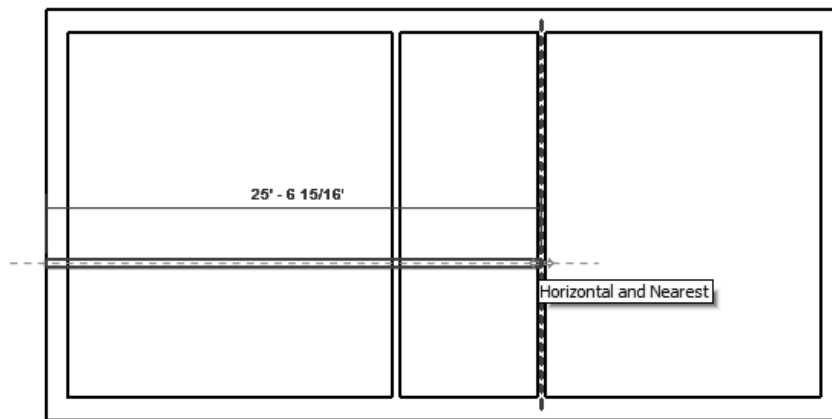

Figure 3-57 Sketching the third interior wall segment
4. Press SHIFT and move the cursor horizontally towards the right until it reaches the first vertical interior wall. When the **Horizontal and Nearest** object snap symbol appears, click to specify the location of the endpoint of the third interior wall, as shown in Figure 3-57. The wall segment is created.